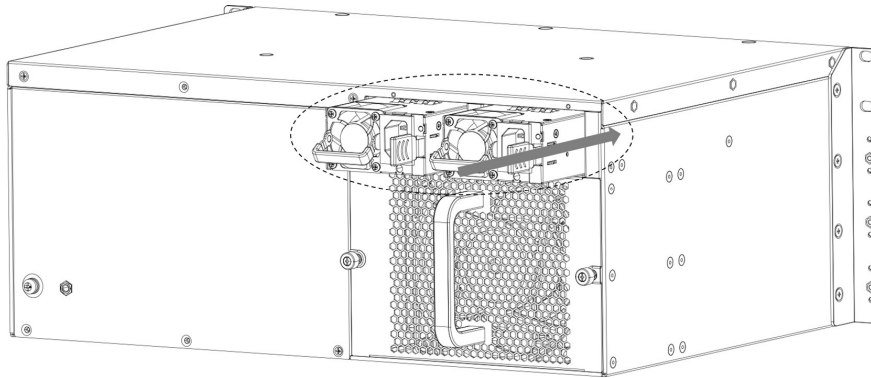

Figure 2-2 Install PSU
Step 2 Align the PSU with the guide rails in the chassis and gently slide it into the slot in the direction shown in Figure 2-2 until it clicks into place.